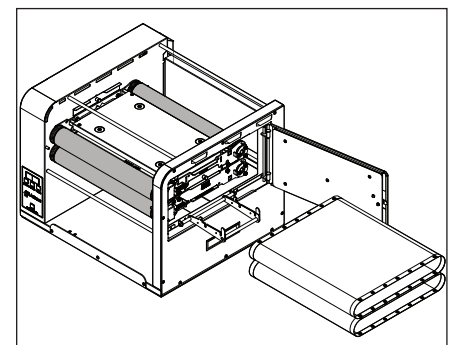

Figure 6. Remove Belts
11. Slide the Belts out of the unit and discard (Figure 6).
12. With belts removed, wipe all four rollers and the top and bottom heater cover plates with a clean sanitized towel to remove any debris (Figure 6).
3. Slide the new bottom belt over the bottom rollers (Figure 6).
4. Slide the new top belt over the top rollers (Figure 6).